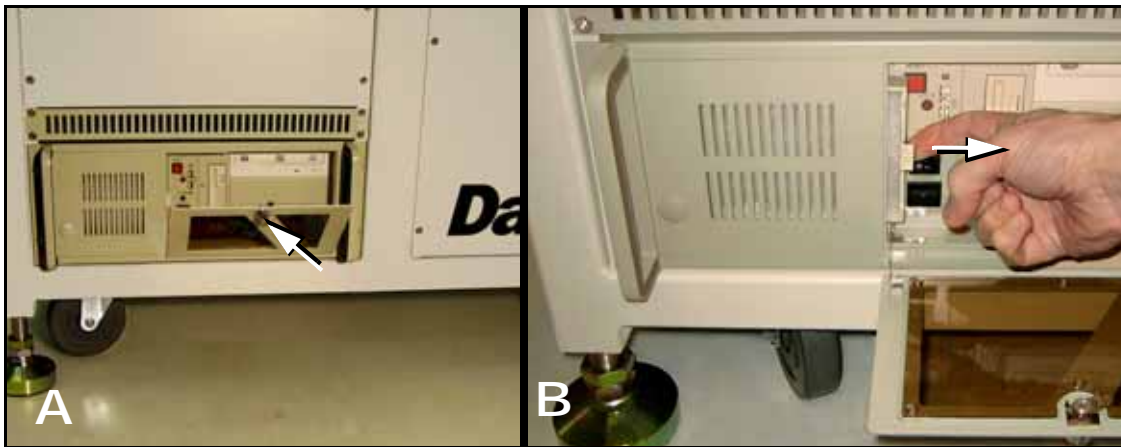

Figure 4-46: The Handler Computer door and knob (A) and filter (B).
2. **Pull out the filter to the right as shown in Figure 4-46. The filter should be white. Clean or replace as necessary.**